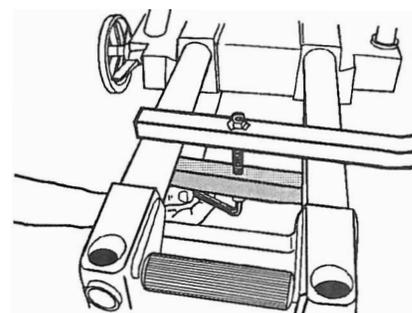

Fig. A-40
**35.** Adjust the support bracket so the channel is parallel to the way tubes, then use a 5/16" Allen wrench to tighten the clamps, as shown in Fig. A-40.